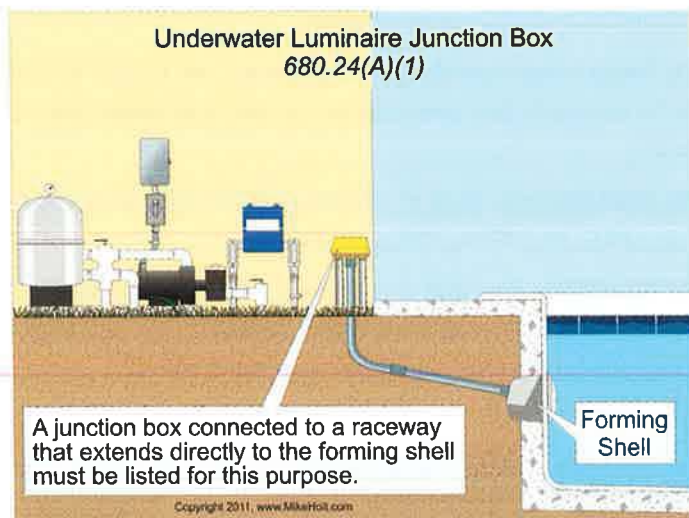

Figure 680-25
(1) Construction. The junction box must be listed as a swimming pool junction box, **Figure 680-25**, and must be: